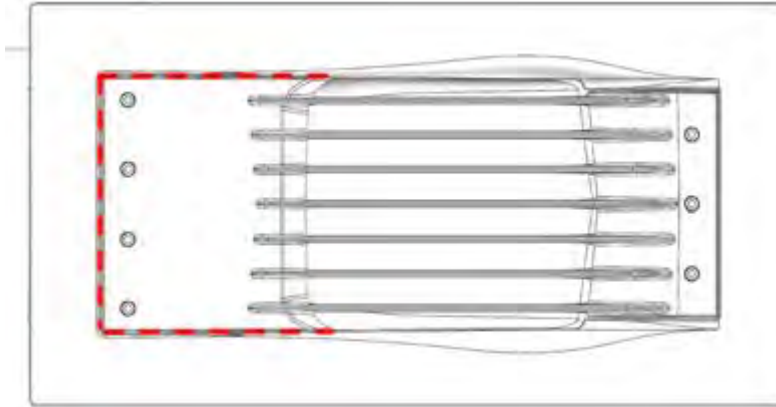

Figure 35. Sealing the intake screen
3. After installation, carefully seal the seams between the screen and the bottom adapter at the back (figure 35) using a sealing compound (such as Sikaflex 291i). This prevents water from entering any cavities between the castings.